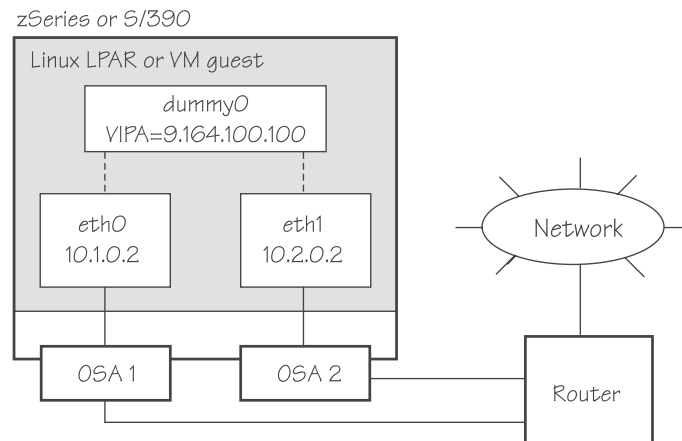

Figure 27. Example of using Virtual IP Address (VIPA)
- Static routing (shown in the example of Figure 27 on page 132).
Figure 27 shows the network adapter configuration used in the example.